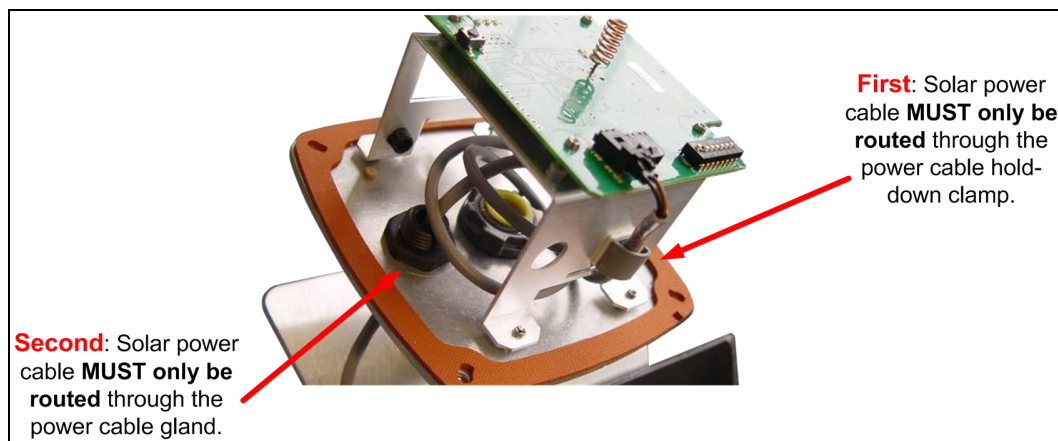

Figure 3: Solar Power Cable through the Power Cable Hold-down Clamp
3. Verify the solar power cable is routed through the power cable hold-down clamp and the power cable gland. (Figure 3)